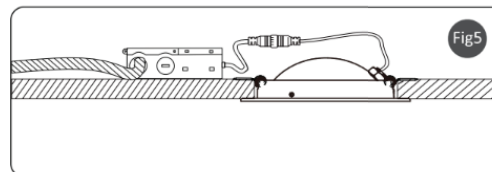

Fig5
- 5.** Turn on the power after installation, check the fixture can work well, see Fig5.